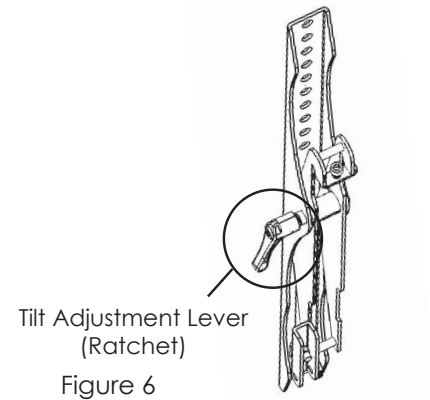

Figure 6
- B. Pull Tilt Adjustment Lever (ratchet) away from arm and then turn clockwise/counter-clockwise to desired location. Let the Tilt Adjustment Lever (ratchet) sit in place (Figure 6).